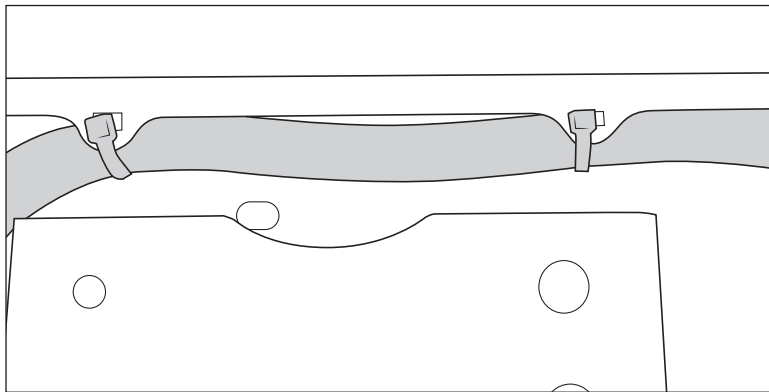

Figure 14
6. Run the factory harness up and over the frame mounting bracket as shown below (fig. 14). Standard zip ties can be used to secure the harness down below the top edge of the bumper.